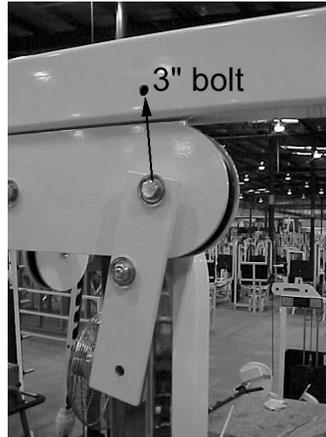

Figure 10. Mount adjustable pulley bracket.
- A. Using a 9/16" socket and combination wrench, remove the tricep back rest bolts (see Figure 10).
- B. Using a 9/16" socket and combination wrench, unbolt the top plate and remove the guide rods (see Figure 10).
- 6. Mount adjustable pulley bracket.** When shipped, the adjustable pulley bracket looks like the one shown in Figure 10. The bolts need to be removed and the bracket needs to be positioned so that the top of the bracket is in the top hole as shown by the arrow in Figure 10. Use a 3" bolt with flat washers, end cap washers and end caps. When you remove the bolts, leave the pulley bolt and pulley out since you will need to thread the cable with the pulley removed.